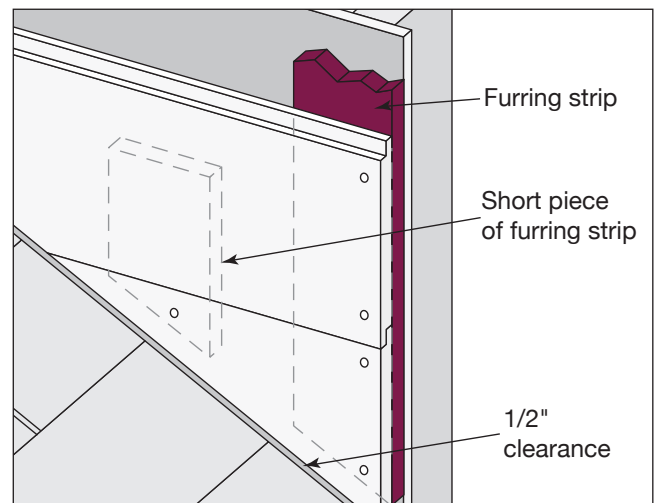

Fig. 52
- If the end of the siding is not secured to a furring strip, cut a short piece of furring strip and secure it to the wall sheathing and then proceed to installing your siding course (**Fig. 52**)